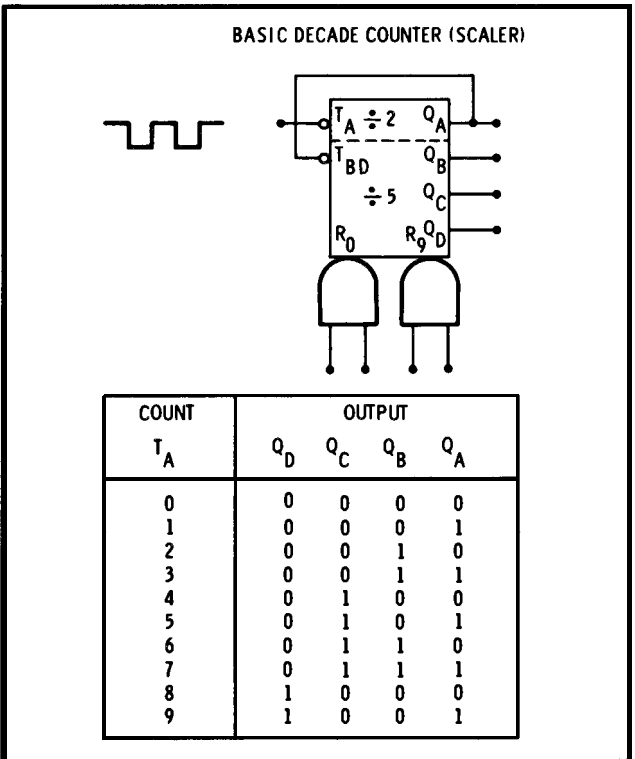

Figure 8-12. Basic Decade Counter (Scaler)
**8-61. Basic Counter.** The basic decade counter (or scaler or divider), shown in Figure 8-12, has ten logic states. The active-high outputs ( $Q_A$ ,  $Q_B$ ,  $Q_C$ , and  $Q_D$ ) increment by one BCD count each time the trigger ( $T_A$ ) or clock input goes from a high to a low. The count sequence is also shown in the file. The counter may be subdivided into a divide-by-two and a divide-by-five counter. The two counters are connected in series (the  $Q_A$  output connected to the  $T_{BD}$  input) to obtain a divide-by-ten counter. The counter has two ANDed clear or reset-to-zero ( $R_0$ ) inputs. When both  $R_0$  inputs are high, the outputs clear to zero. The clear function overrides the clock. Similarly, the two ANDed set or reset-to-nine ( $R_9$ ) inputs set the outputs to the nine count. If all reset-to-zero and reset-to-nine inputs are simultaneously high, the reset-to-nine overrides the reset-to-zero.